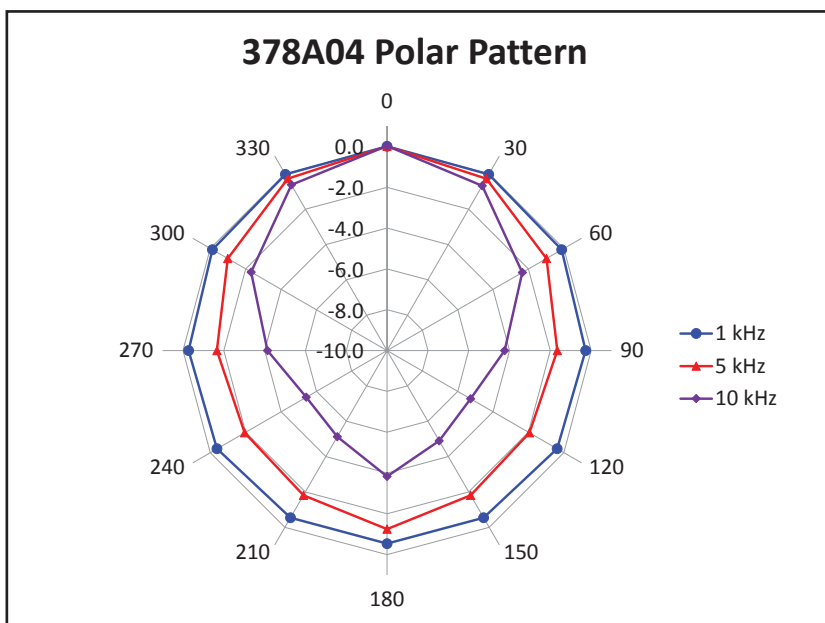

Figure 5: The polar pattern of the 378A04 measured in PCB Piezotronics' anechoic chamber shows a smooth narrowing of the directivity with increasing frequency.
**Figure 5** shows the polar pattern data from PCB Piezotronics' anechoic chamber. The microphone is nearly omnidirectional at low frequencies, with increasing directionality at higher frequencies because of the microphone geometry. The usual setup suggestions for non-reverberant measurement apply here—the microphone should be pointed directly at the source so that the high frequencies can be added with correct amplitude. Note the absence of lobing and the smooth transition in directionality with increasing frequency, both of which are necessary for accurate free field measurement.